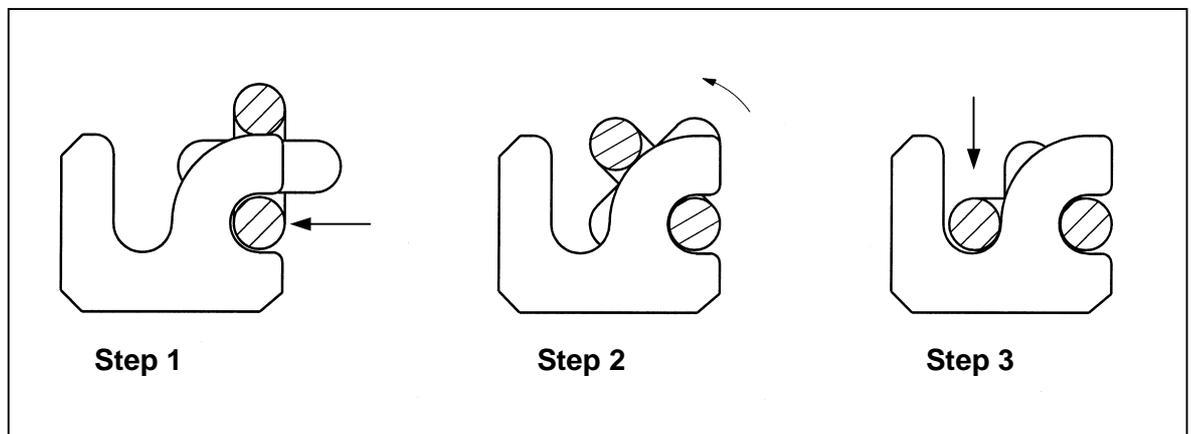

Fig. 2
2. Hook the attachment/scrapper bar into the horizontal chain link (90° relative to the plane of the wheel). The slack chain can alternatively be hooked onto the scrapper bar (figs. 2 & 3).